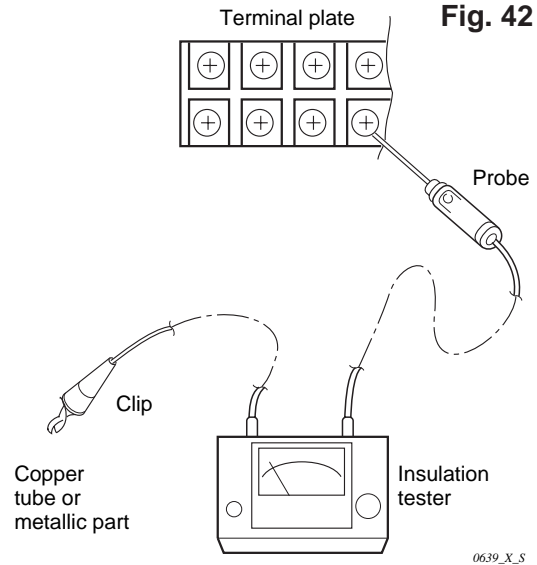

Fig. 43
Clamp an aluminum plate fin or copper tube with the lead clip of the insulation resistance tester and measure the resistance by placing a probe on the terminal plate (Fig. 43)
③ Outdoor Unit
Measure the resistance by placing a probe on the terminal plate in the same manner as explained above ②. (Fig. 43)
④ Measurement of Insulation Resistance for Electrical parts